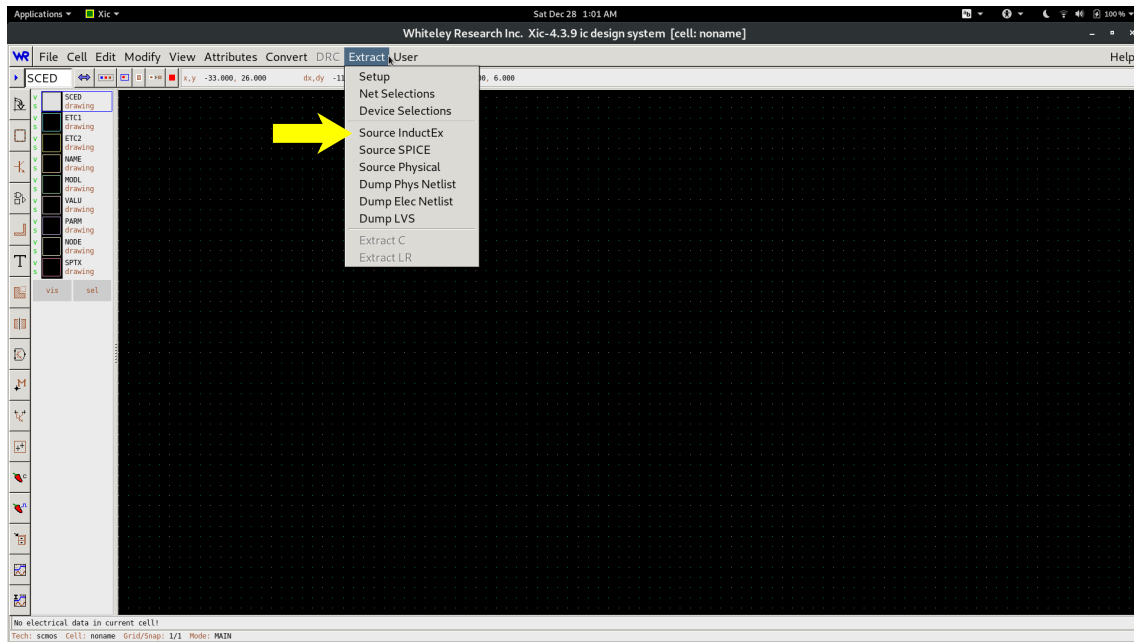

Figure 2: The values extracted from InductEx is back annotated to the XIC environment using the Extract → Source InductEx.
2. The extracted impedance values are back annotated by selecting Extract → Source InductEx. Figure 2 shows the InductEx back annotated command.